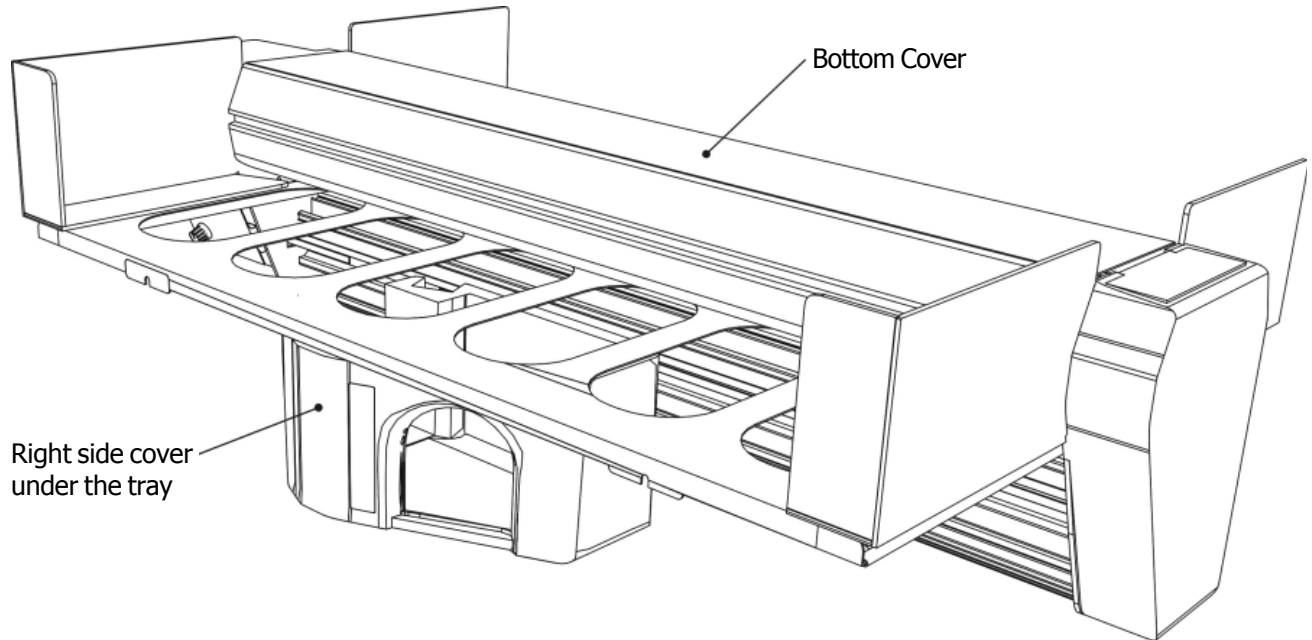

Fig. 5-5 Turn 300 over, and place right side cover under tray
4. Use your assistant to help you flip the 300 cutter over onto its top dust cover. Use the right side cover to place under the tray so it doesn't fall over while it's on its top. See figure 5-5